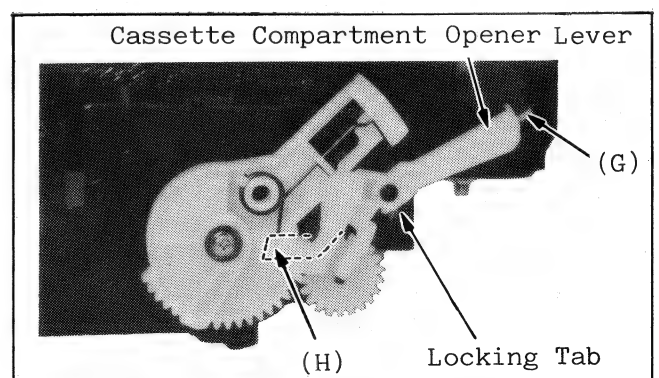

Fig. M36-10 Adjustment of Cassette Up Gears-(10)
3. Install the cassette compartment opener Lever as shown in Fig. M36-10. Ensure a portion of opener lever (G) slides into the opening beside Cassette door. Snap Cassette Compartment opener lever into place over its pin. Pull down on (H) to ensure Cassette door opens.